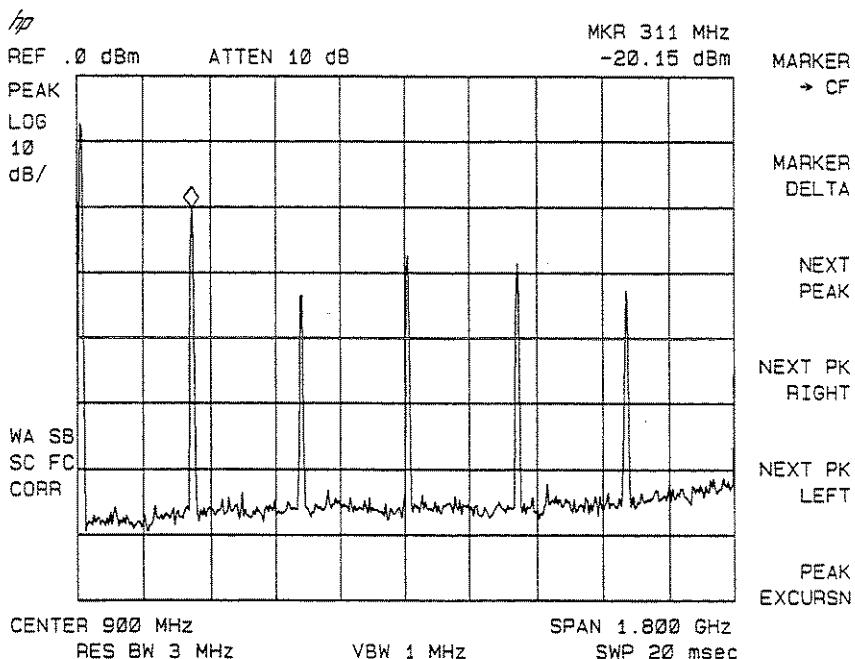

Figure 2-12. Placing a Marker on the CAL OUT Signal
2. Press [PEAK SEARCH] to place a marker at the highest peak on the display. The [NEXT PK RIGHT] and [NEXT PK LEFT] softkeys move the marker from peak to peak. Press [NEXT PK RIGHT] to move the marker to the 300 MHz calibration signal. See Figure 2-12.